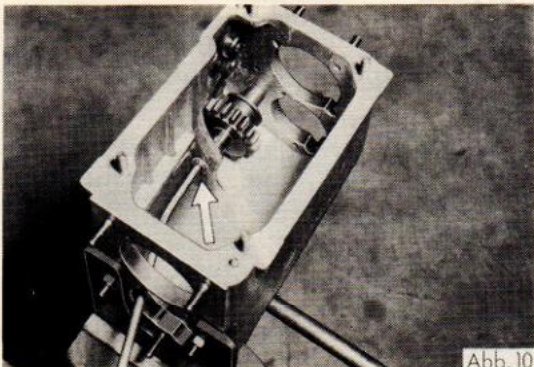

Abb. 10
14. Drive out reverse gear spindle (Fig.10) and remove reverse gear pinion and thrust washer.